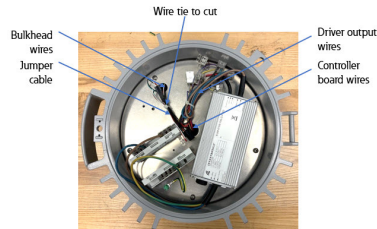

FIGURE 2
5. Pull out the barrier board assembly by disconnecting "I.S. (TO BULKHEAD)" & "BOARD" from their respective connectors (See Figure 2, 4 & 15b).